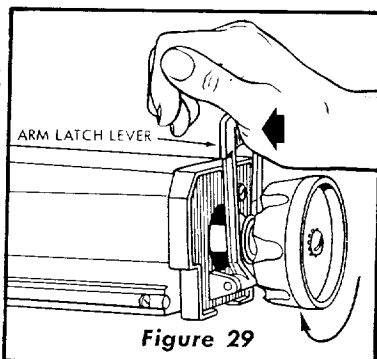

Figure 29
- d. Pull the arm latch lever outward and move radial arm approximately 10° to the right. Release the arm latch lever and move radial arm slowly toward the left until it "indexes". Do not bump or jar the arm. Tap the arm latch lever solidly with palm of the hand (figure 29) in order to seat the arm lock pin firmly in the arm latch.